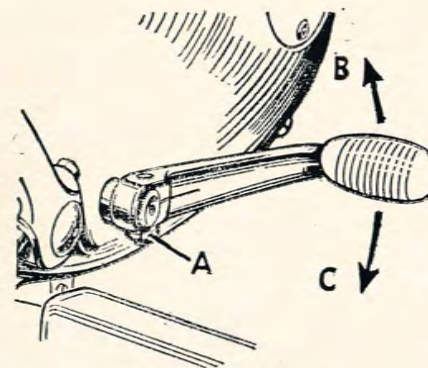

Fig. 4.
Neutral position is between first and second gears, and downward movement (C) Fig. 4, of the lever selects a lower gear, whilst an upward movement (B) selects a higher one. The pedal can be repositioned as required after releasing its pinch bolt (A).